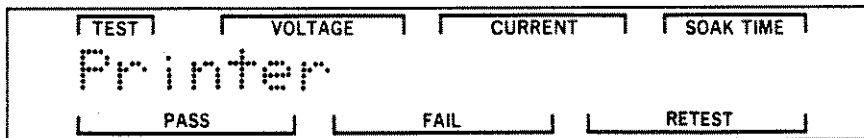

Figure 3-38. Printer Entry Screen
- STEP 11. Press the DOWN pushbutton to advance to the Printer Entry screen. This screen provides access to the individual Printer screens. Figure 3-38 is an example of this screen.